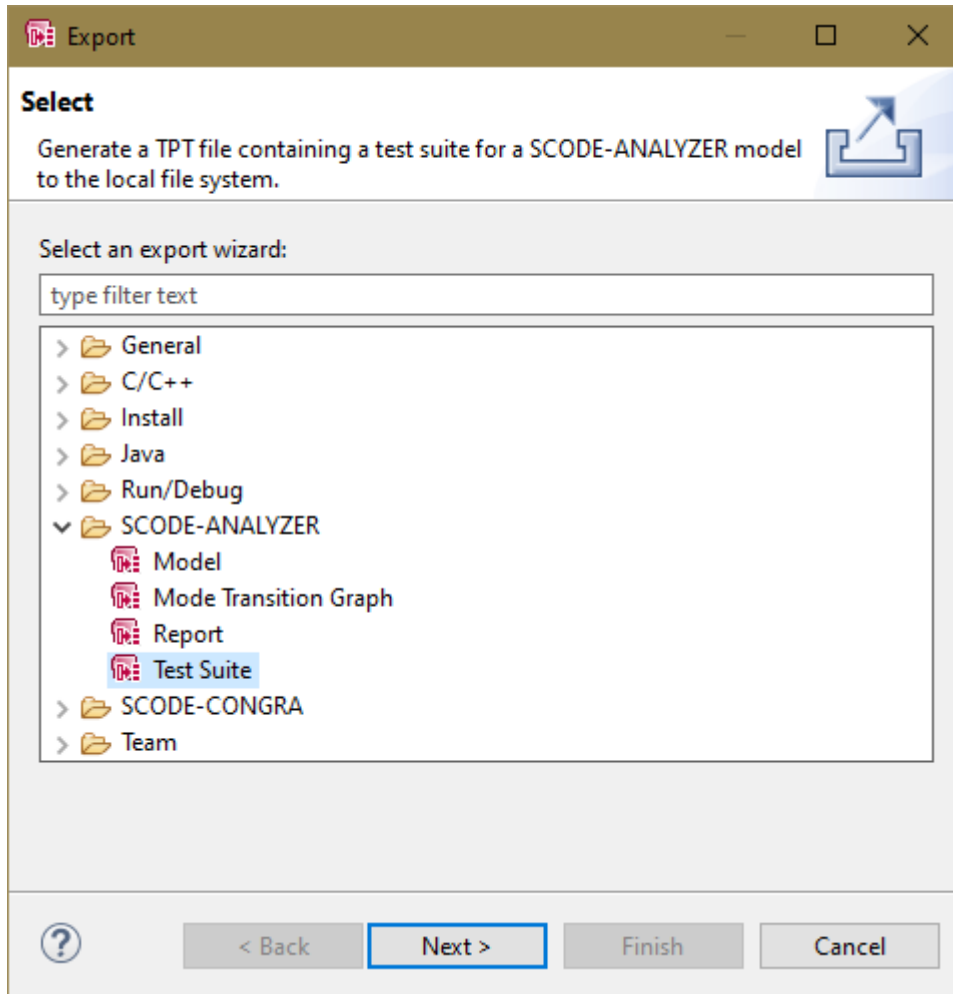

Figure 88. "Export" window with selected SCODE-ANALYZER test suite generation
2. In the list of the export wizard, select test suite generation for SCODE-ANALYZER (see Figure 88).